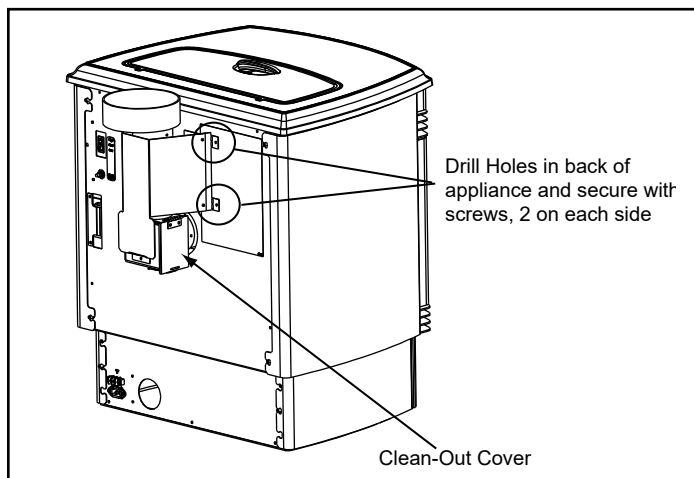

Figure 21.2
3. Drill 4 holes with #26 drill bit (provided) into the back of the appliance using the outer shield as a pattern (make sure the assembly is vertical) (**Figure 21.2**).
7. To clean the top vent adapter open the clean-out cover (**Figure 21.2**).